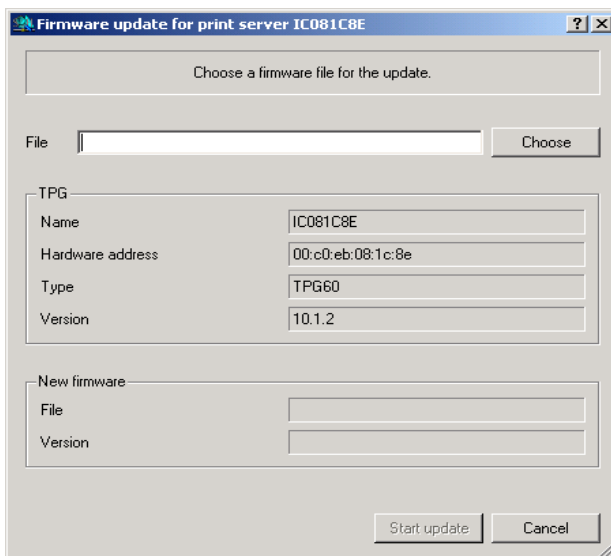

Fig. 8: InterCon-NetTool - Firmware Update
3. *Select Actions – Firmware Update – Standard Update from the menu bar. The Firmware update dialog appears, see: figure 8 ⇨ 73.*